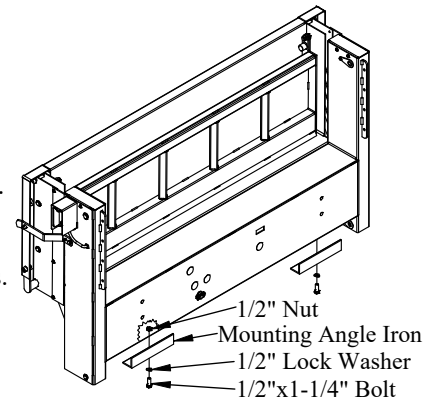

Figure 17: Mounting angle iron location.
- 1. Install** the two (2) mounting angle irons to the bottom of the liftgate (Figure 17).